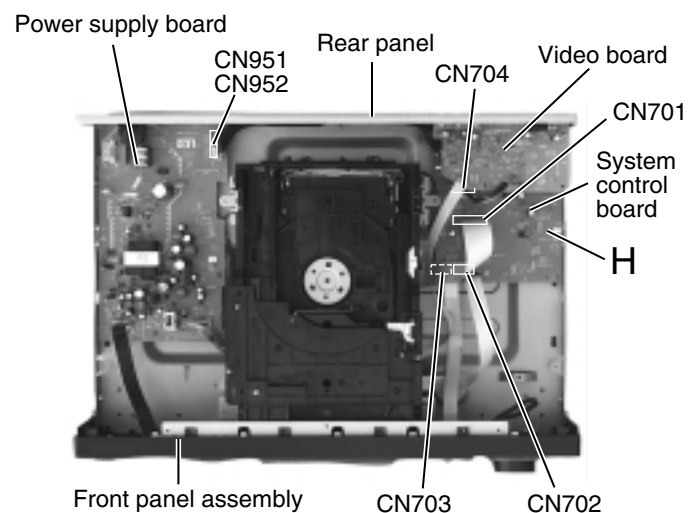

Fig.13
■ Removing the System control board (See Fig.13 and 14)